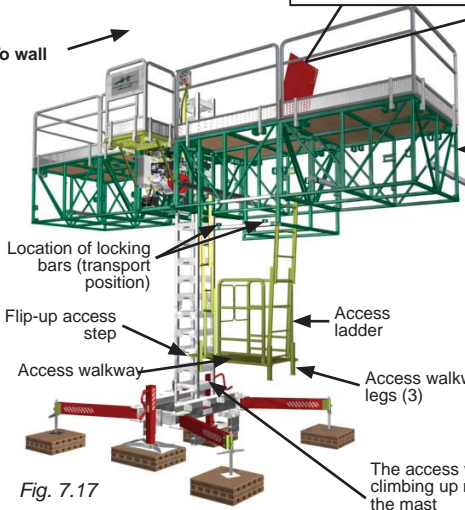

Fig. 7.17
To reach the work area when the motorized unit is at a height above 10' (3 m), it is recommended to use a staircase or an opening in the building. The platform may also be accessed by climbing up mast rungs to an optional access bridge, then up the ladder of that access bridge onto the work area (fig. 7.17).
- 3- Loosen the 3/8" bolts to pull out all three access walkway legs (fig. 7.17). Secure in place by tightening the bolts.
The access bridge must be installed on the **right side** of the mast **ONLY** (fig. 7.17) and a bearing bridge installation cannot be positioned on the same side as the access bridge.